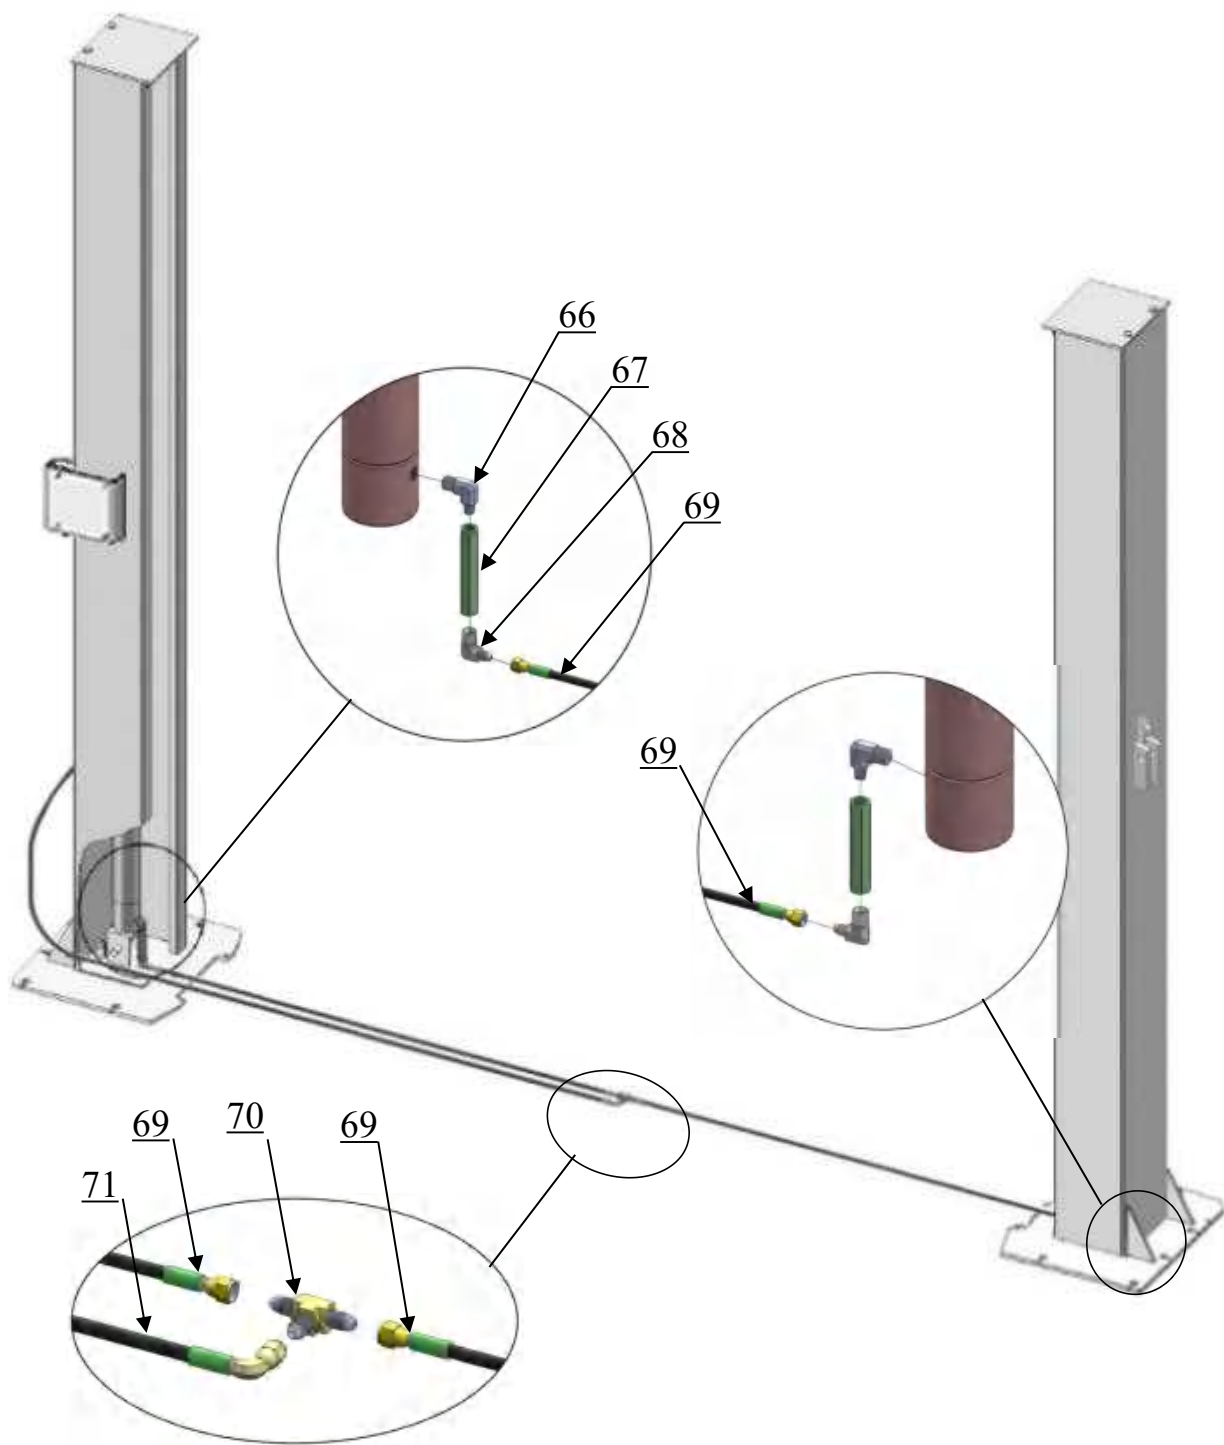

Fig. 19
J. Assembly oil hose assy. (See Fig. 19)